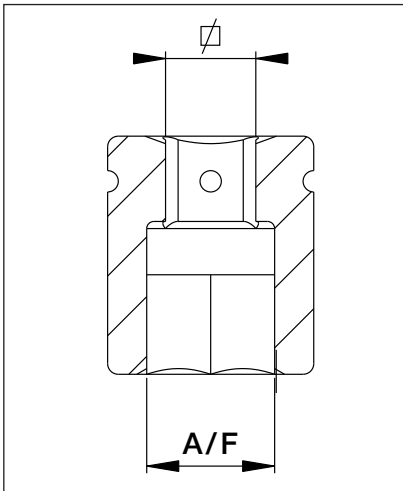

Fig. 33
6.7 Dimensions, BSH Series Hex Sockets (Fig. 33)
6.7 Dimensions, BSH Series Hex Sockets (Fig. 33 - Continued)